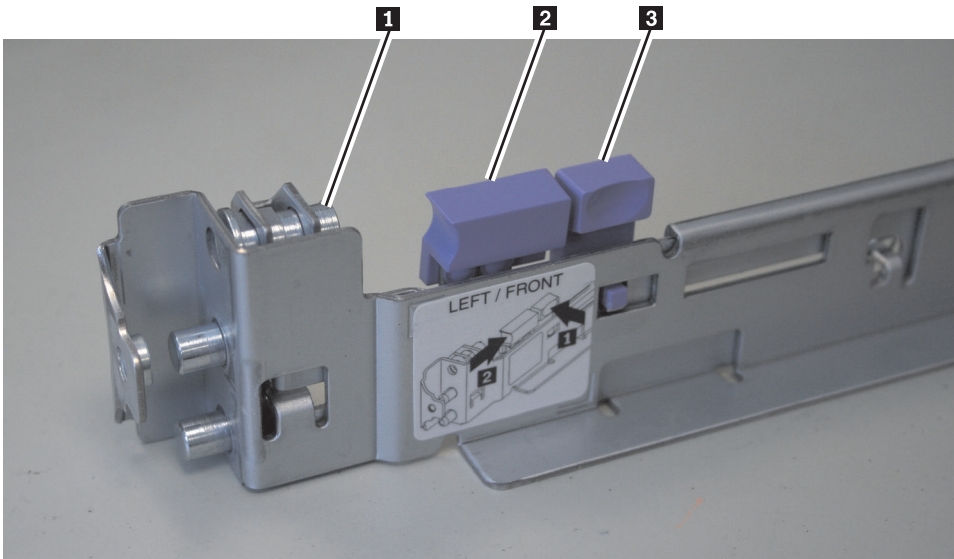

Figure 52. A closed rail-locking carrier at the front of the support rail for the SAN Volume Controller 2145-8A4
1. Ensure that the rail-locking carriers at the front and rear of each support rail are open. The mechanism to open is similar at each end. If a locking mechanism is closed, as shown in Figure 52 on page 74 (for a front bracket), open it.